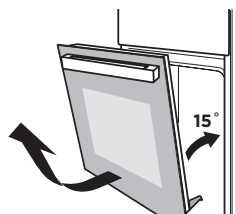

Figure 2
2. Close the door to an angle approximately 15° . Lift up and slowly pull the door out from the oven.(Figure 2)